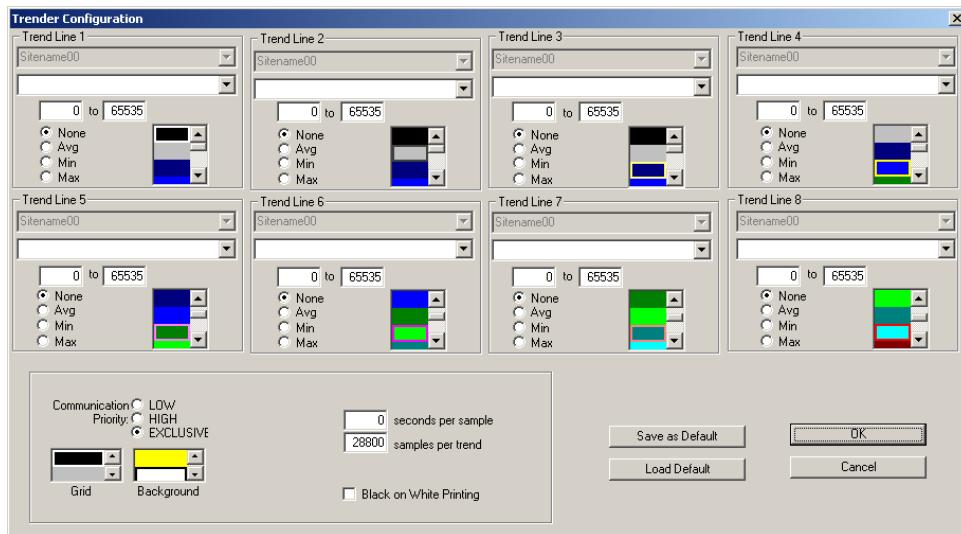

Figure 11-1: Trend Configuration Window
1. The **Trend** menu **Configure** command brings up the **Trend Configuration** window as per Figure 11-1.